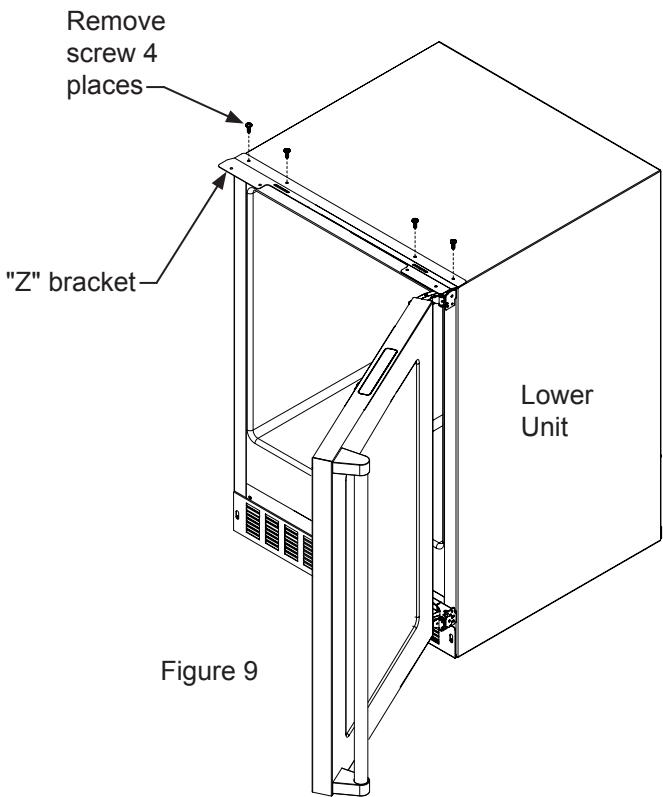

Figure 9
3. If the appliances have a "Z" bracket on the cabinet top (professional series models and Marvel overlay door models) **the "Z" bracket has to be removed from the lower unit, (see Figure 9)**. To remove the "Z" bracket from these models remove the four (4) screws holding the bracket in place to the top of the cabinet with a philips screwdriver.